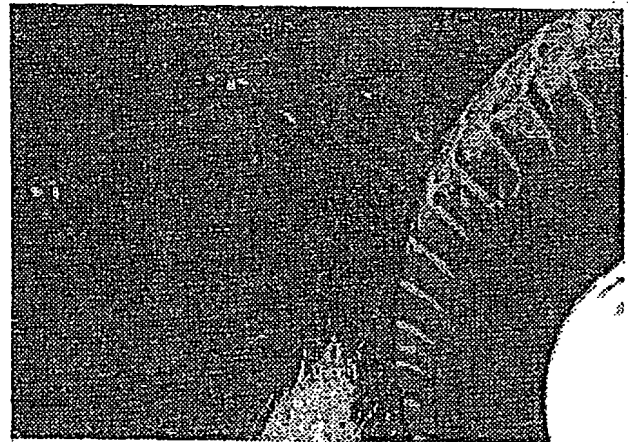

FIGURE 8
4. Using the tilt cylinder, roll back the attachment so it drops into place, as shown in **Figure 8**.